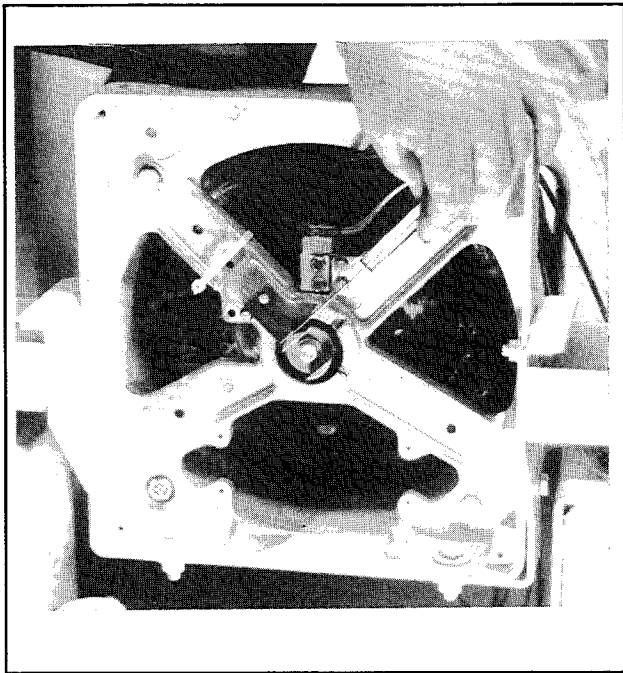
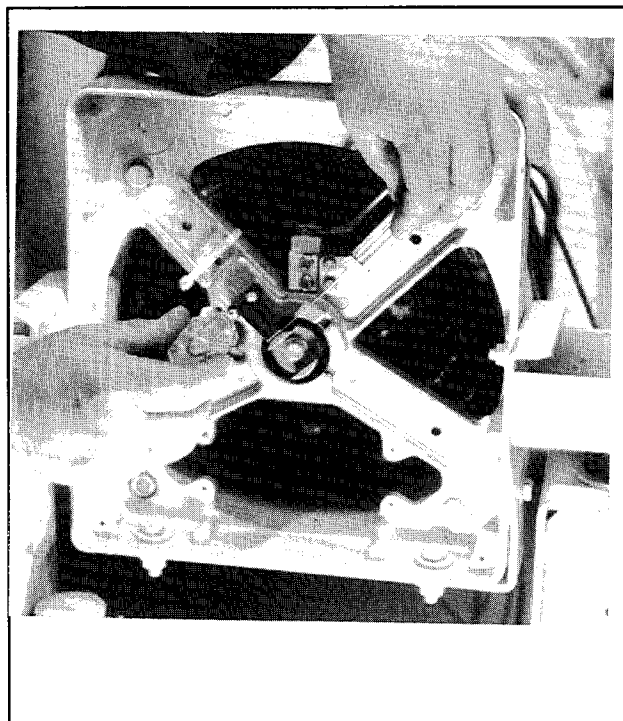

Figure 8-22. Checking Actuator Air Gap
Figure 8-23. Adjusting Actuator Air Gap
11. Check and adjust magnetic pick-up to actuator air gap. Actuator should be positioned so that raised portion is directly aligned with magnetic pick-up. See Figure 8-22. Air gap should be 0.030 in. (0.76 mm) \pm 0.010 in. (0.25 mm). Rotate actuator 180 degrees and recheck. Air gap should not be less than 0.020 in. (0.051 mm) at the closer end. To adjust, loosen the two magnetic pick-up mounting screws and slide magnetic pick-up (inward or outward) to obtain the proper specification. Tighten magnetic pick-up screws. See Figure 8-23.